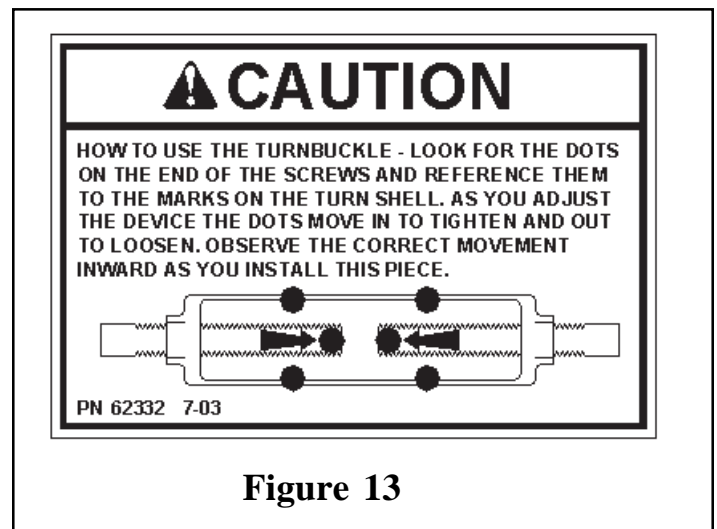

Figure 13
9. Pin the turnbuckle in place at the connection points below the head and foot sections of the bed. (DO ONE SIDE AT A TIME) Using the Tool provided place one end through the center of the turnbuckle. Look for the dots on the end of the screws and reference them to the marks on the turnbuckle body. (see figure 13). As you adjust the turnbuckle body the dots on the screws will move toward each other when tightening and away from each other when loosening. Observe the correct movement